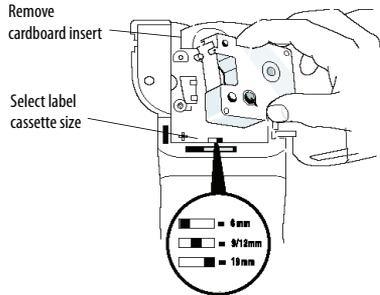

Figure 4
! The first time you use the labelmaker, remove the protective cardboard insert from between the print head and pinch roller. See Figure 4.
2. Set the cassette switch for the size of the label cassette that you are inserting. See Figure 4. A notch in the cassette fits over the switch when the cassette is in the correct position.